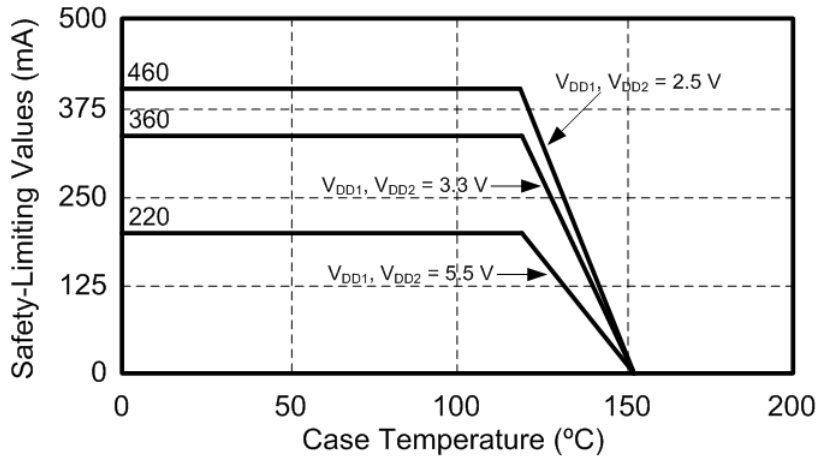
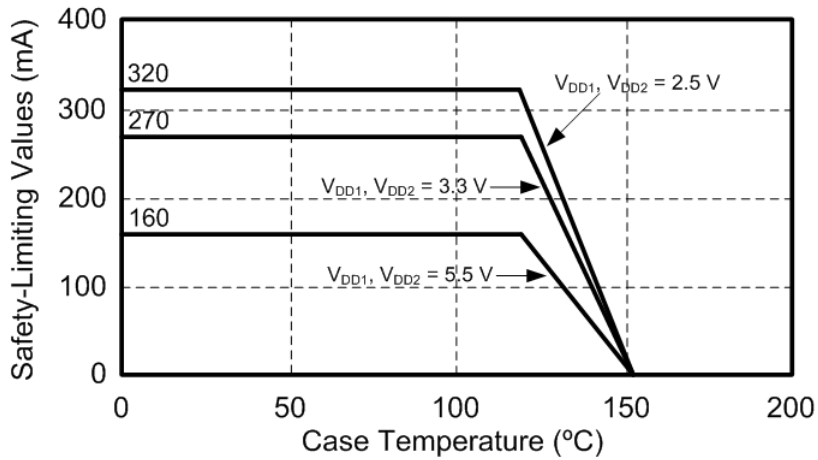

Figure 4.3. (WB SOIC-16) Thermal Derating Curve for Safety Limiting Current
Figure 4.4. (SOIC-8) Thermal Derating Curve for Safety Limiting Current
- Maximum value allowed in the event of a failure; also see the thermal derating curve in Figure 4.3 \(WB SOIC-16\) Thermal Derating Curve for Safety Limiting Current on page 26 and Figure 4.4 \(SOIC-8\) Thermal Derating Curve for Safety Limiting Current on page 26.